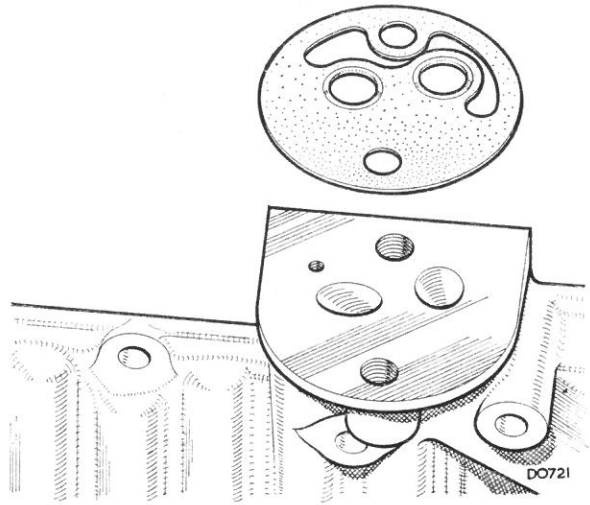

Fig. Aa.2
- (12) Reverse the removal instructions, fitting a new joint washer with the correct face of the joint washer to the base of the front cover (see Fig. Aa.2). Tighten the securing bolts to the torque figure in 'GENERAL DATA'.
- (13) Carry out items (8) and (9).